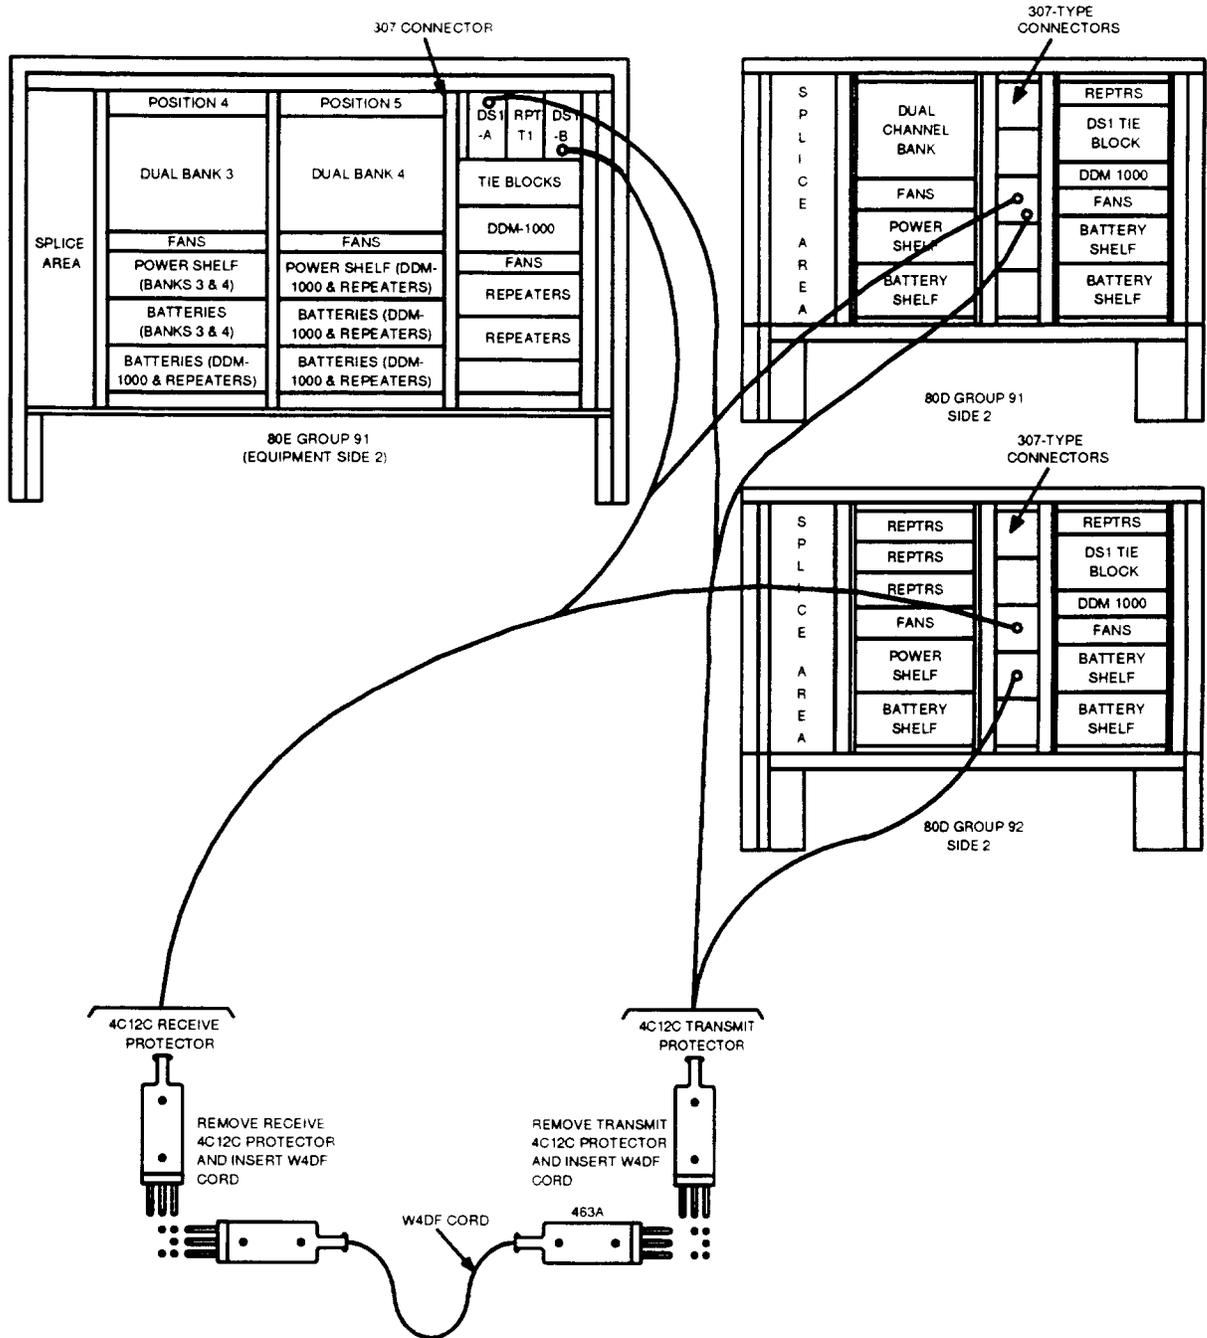

Figure 7 — DSX-1 Level Access T1 Line Loopback for Far Ended Fault Locating
10. Use Table A, B, or C to find 4C12C (DSX-1 level) protectors for digital line to be looped. Replace 4C12C protectors with W4DF looping test cord (see Figure 7). Insert 262C fault line terminating plug into appropriate **FL** jack on **LDU** unit.